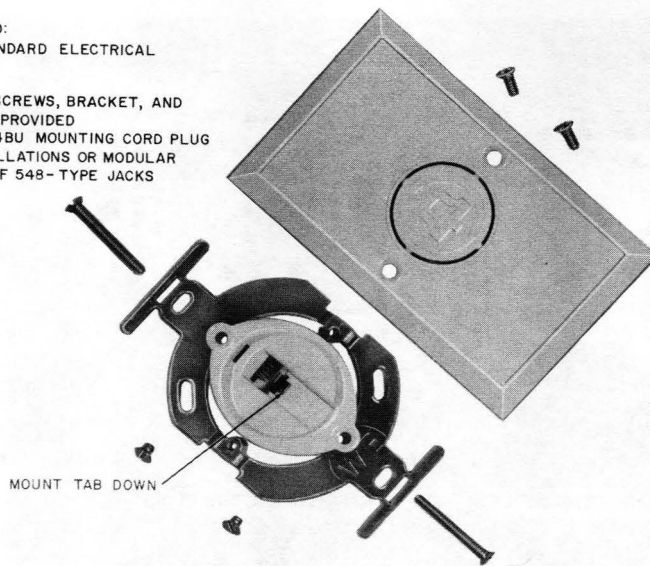

Fig. 2—625B Connecting Block (With Mounting Hardware)
- Block, Connecting, 625B (Fig. 2)
2.04 The **625B** connecting block (Fig. 2) includes the 625F connecting block, 65A faceplate package, and two mounting screws. It is intended for new installations or modular replacement of 548A jacks or 47F connecting blocks. ♦The 625B connecting block is available in ivory (-50) and brown (-54).♦